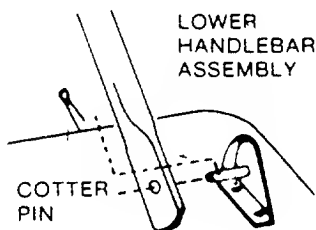

FIGURE 2.
2. Slip one leg of lower handle onto the pin of one of the attaching brackets on the mower base. Apply inward pressure on the other leg of the handle and snap over the pin of the other attaching bracket. Secure with cotter pins supplied. See figure 2.